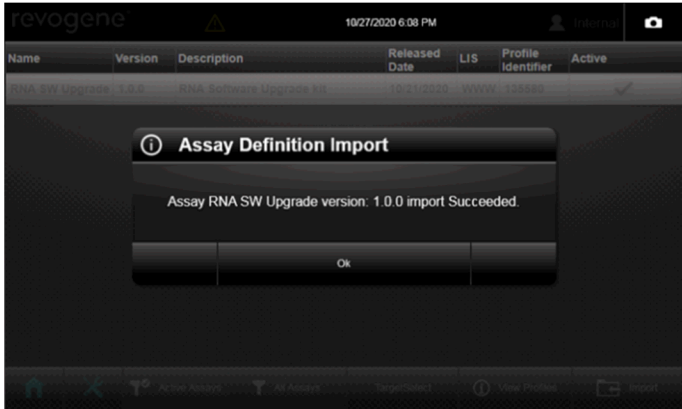

Figure 13: ADF Import Confirmation
4. A window will appear stating that the ADF was imported successfully. Tap <OK>. (Figure 13)